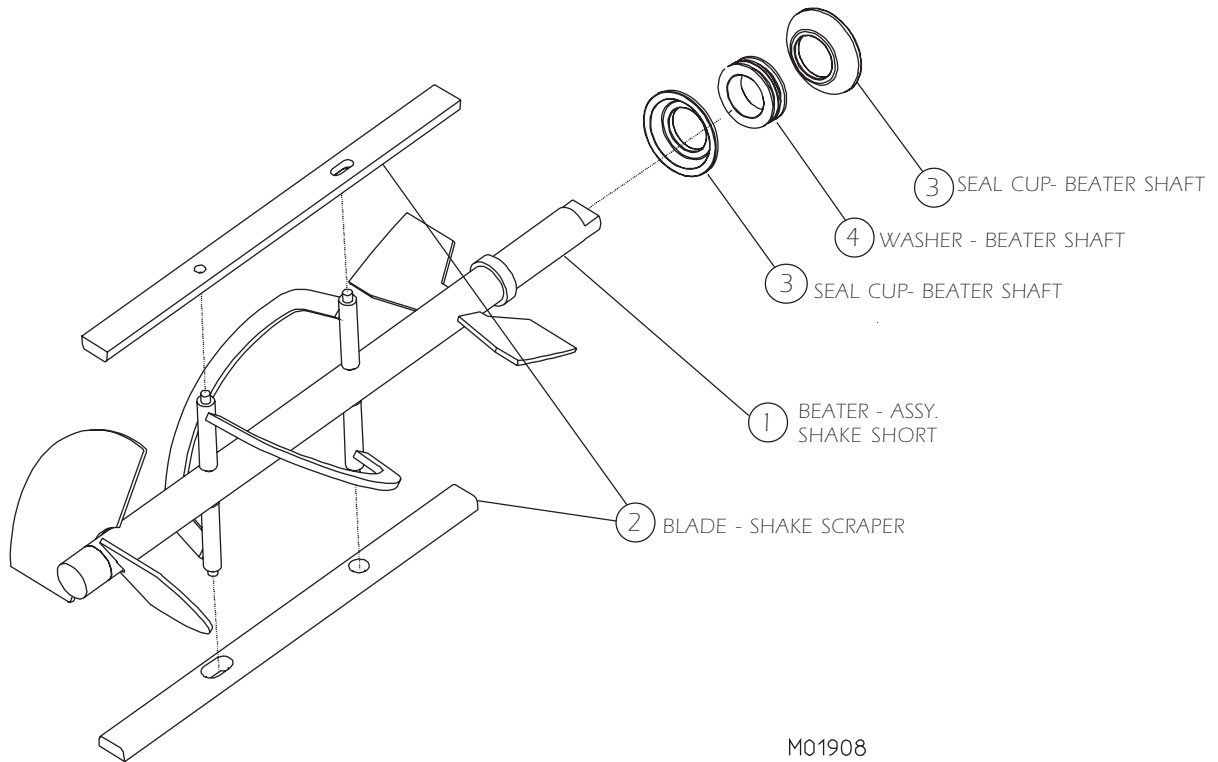

Figure 6-3 Beater Shaft Assembly
8. Remove the head bushing (2) and beater shaft (figure 6-3) from the cylinder. Then remove the scraper blades (2) and shaft seal (3) from the beater shaft (1). Remove the drip tray.